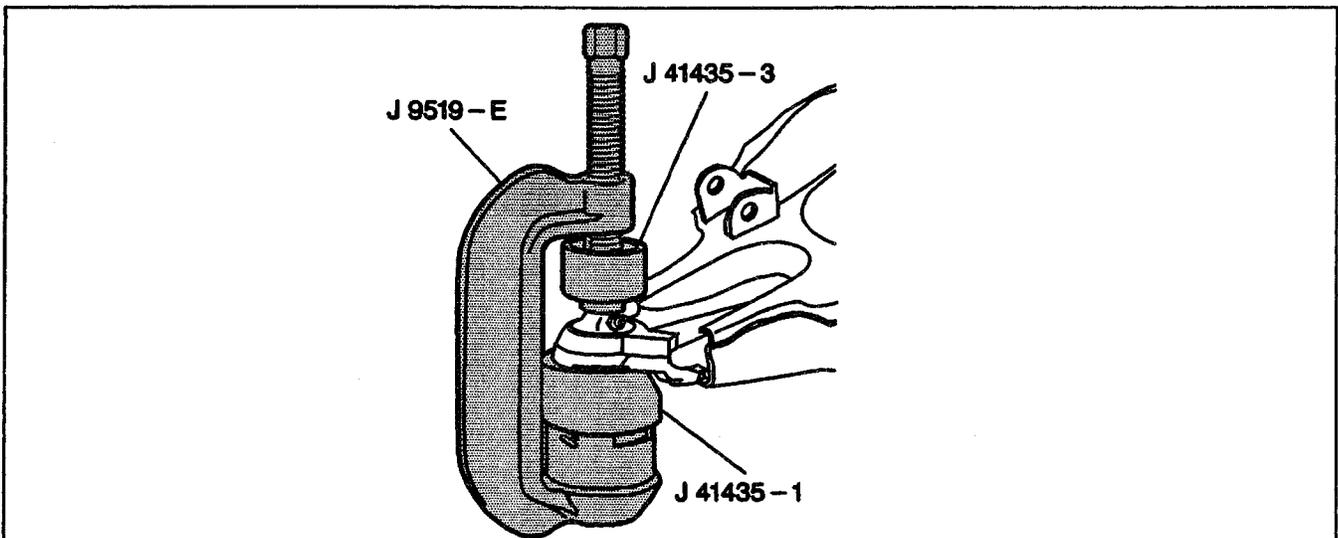

Figure 38—Removing the Lower Ball Joint
- Use tools as shown in (Figure 38).